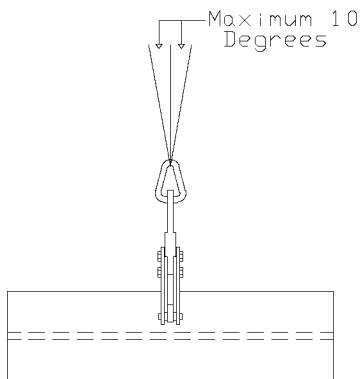

Figure 3: Never exceed ten degrees (10°) side loading with a "VL-BC" model clamp.
5. Never exceed ten degrees (10^0) side loading with a “VL-BC” model clamp (Fig. 3).
- Never exceed ten degrees (10°) side loading with a “VL-BC” model clamp (Fig. 3).